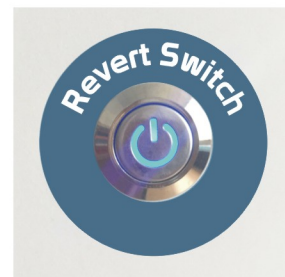

Fig.4.1-1
4.1.2.3 Open the flip cover and switch on the power button(will be lighted). After that, you need to press the power resume button(Fig.4.1-1)to light the screen.